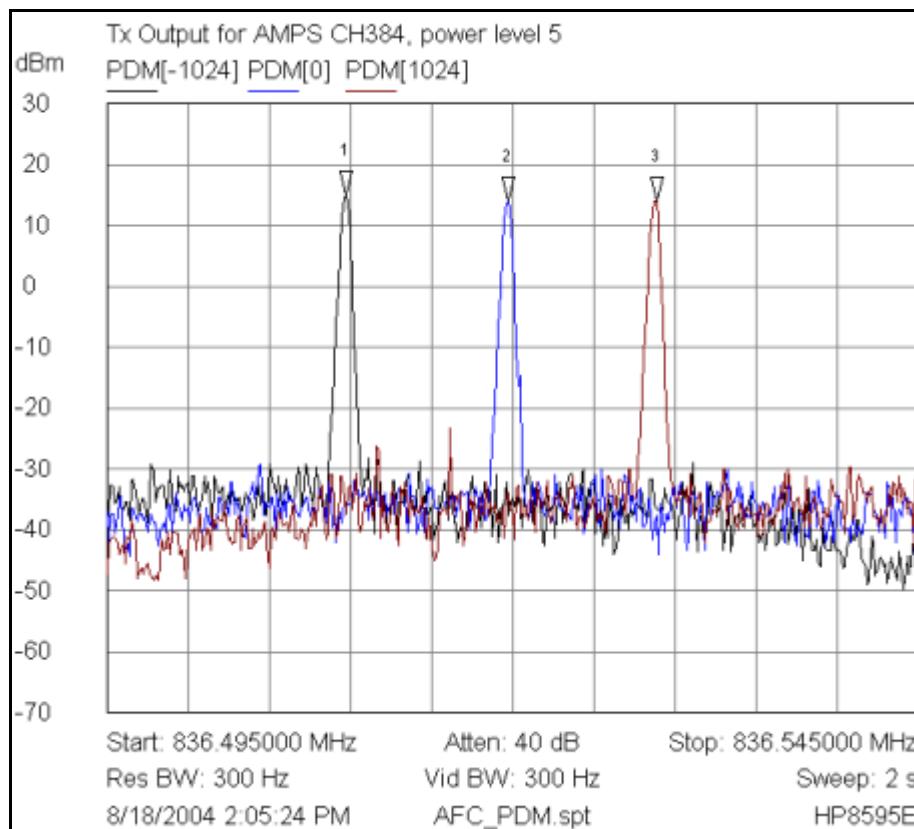

Figure 46: Tx Output for AMPS channel 384, power level 5
2. Measure the DC voltage at R7205. The following typical voltages are shown in Figure 46.